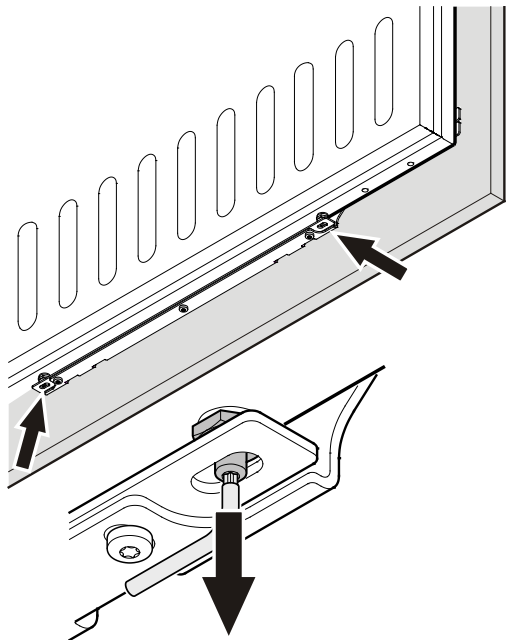

Figure 30
8. Turn the adjusting bolts (bottom refrigerator door) until they make contact with the attachment bracket (**Figure 30**).